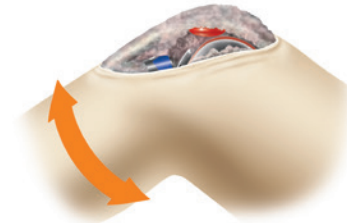

Figure 46
- 2 Perform a trial range of motion to assess patellar tracking. With cruciate-retaining knees, medial/lateral placement of the femoral trial can be adjusted to optimize patellar tracking (Figure 46).